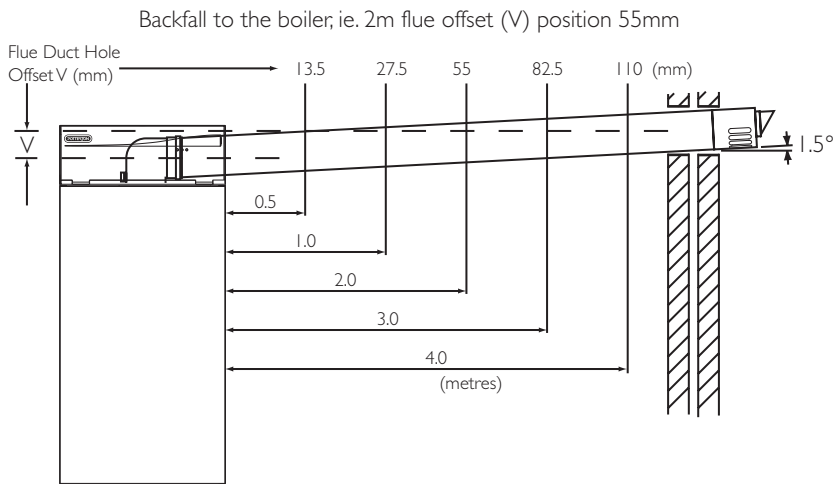

Fig. 21
The diagram (Fig. 21) shows the dimensions required to ensure any horizontal flue is installed with the correct fall to the boiler. Mark the offset (V) dimension and if required, mark the position of the gas, water and condensate pipes. Remove the template.